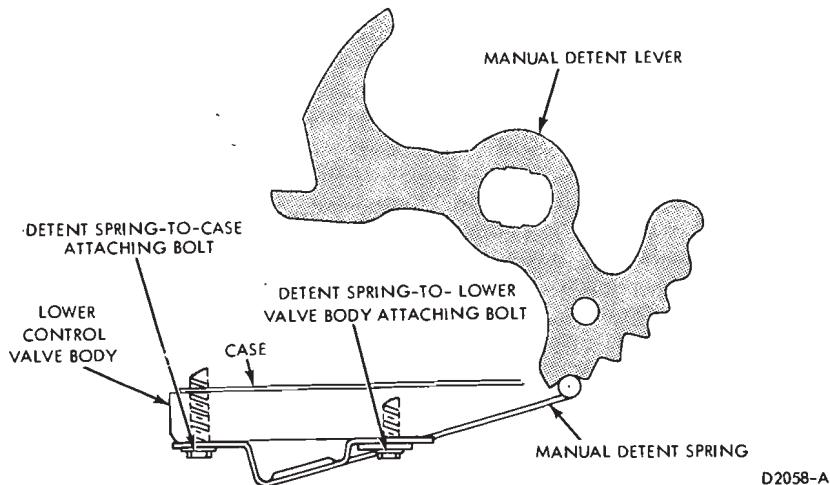

FIG. 20—Control Valve Body Detent Spring Installed
4. Shift the transmission manual lever to the P position and remove the two bolts that attach the detent spring to the valve body and case (Fig. 20).
9. Position the detent spring to the lower valve body and install the spring-to-case bolt finger tight (Fig. 20).
10. Hold the detent spring roller in the center of the manual detent lever and install the detent spring-to-lower valve body bolt (Fig. 20). Tighten the bolt to 80-120 in-lbs. torque.